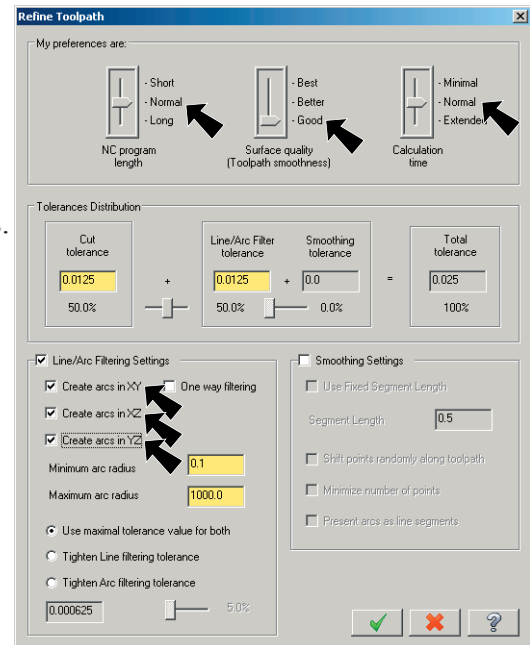

Fig. 77
Step 16. Set the 3 sliders to: **Fig. 77**